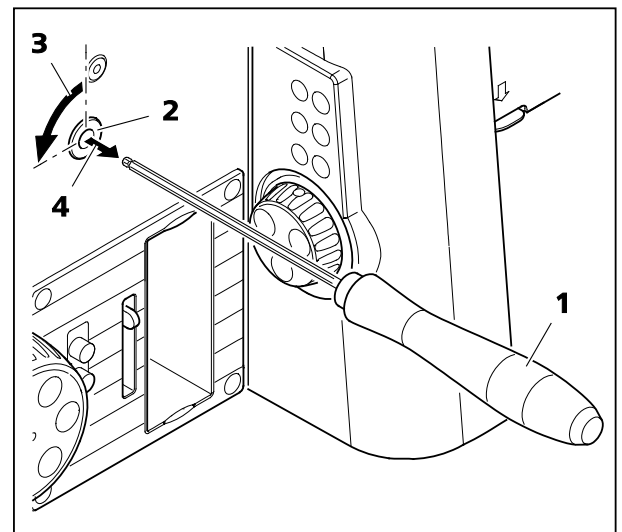

Fig. 36 **Activating the high-performance focus**
- Using the AF 3 ball-head screwdriver (Fig. 36/1) release the two locking pins (Fig. 36/2) on the right **and** left of the stand by turning them **90 degrees anticlockwise** (Fig. 36/3). The locking pin is released from its locked position (Fig. 36/4) by spring action. The head of the locking pin is now visible, and the high-performance focus is active.